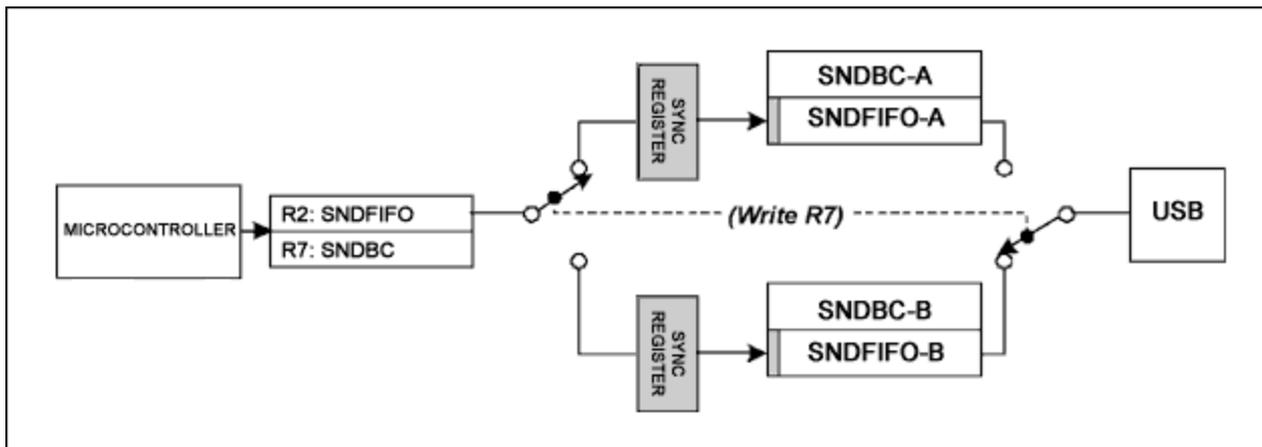

Figure 1. The SNDFIFO and SNDBC registers load a "ping-pong" pair of FIFOs and byte count registers.
As illustrated in **Figure 1**, the first FIFO byte does not come from the physical FIFO. Instead, the first FIFO
2. Rewrite only the first FIFO byte to the SNDFIFO register. This byte goes into the SYNC REGISTER in Figure 1.